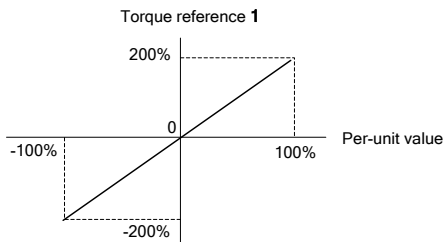

Fig.6-24 Torque reference 1
**1:** Torque reference 1: Determine the torque reference with the per-unit value converted from analog. 0 to 100% per-unit value corresponds to 0 to 200% positive torque input, as shown in the positive axis zone in Fig.6-24.
shown in the positive and negative axis zone in Fig.6-24.